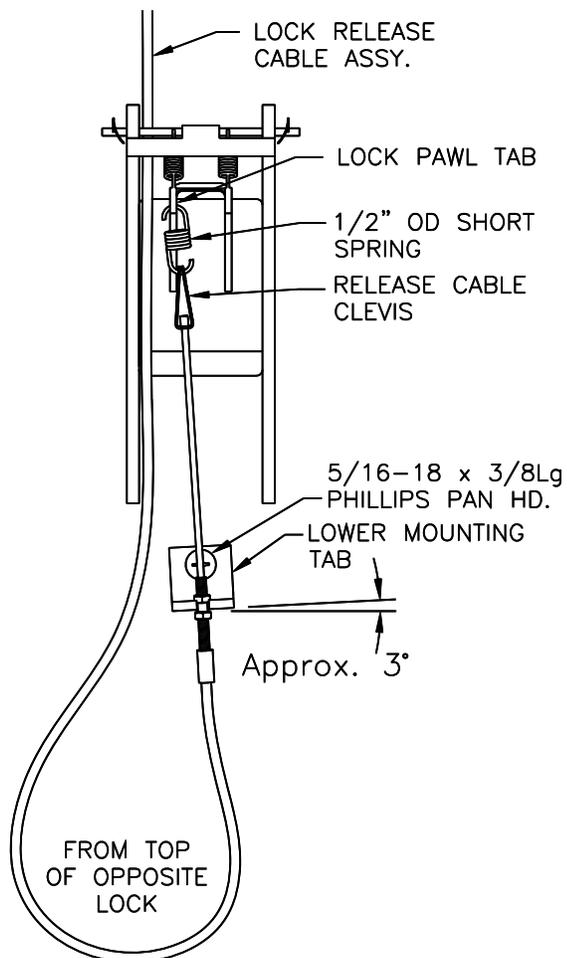

Fig. 18b-Lock Release – Idler Side
- 52) Attach the Lower Mounting Tab to the idler column using the 5/16-18 x 3/8 long Phillips pan head screw. Rotate slightly to be in-line with connection to lock pawl as shown in **Fig. 18b**.
- 53) Hook the 1/2" O.D. (short) spring to the left side of the Lock Pawl Tab, collapse the clevis at the end of the lock release cable, and hook the clevis to the bottom of the 1/2" O.D. spring, **Fig. 18b**.